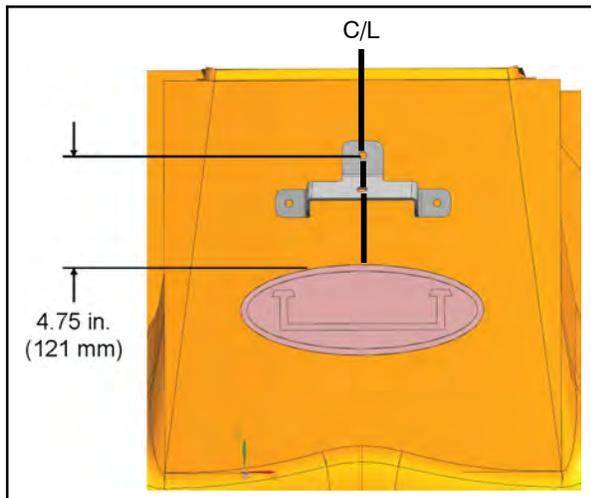

FIG. 8
- Position the front cover spotlight mounting bracket (3) onto the front cover and mark the locations for the three front cover spotlight mounting bracket mounting holes onto the front cover. (Fig. 8)
- Drill a 0.375 in. (9.5 mm) hole completely through each hole marked on the front shroud in the previous step. Drill completely through both sides of the shroud. (Fig. 8)